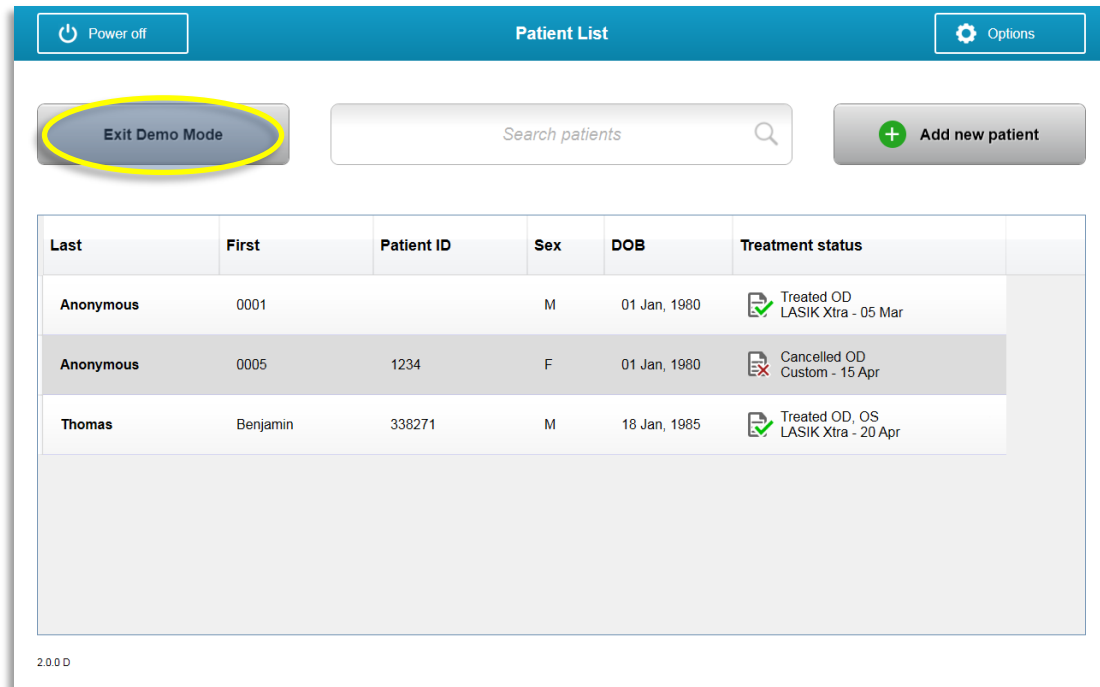
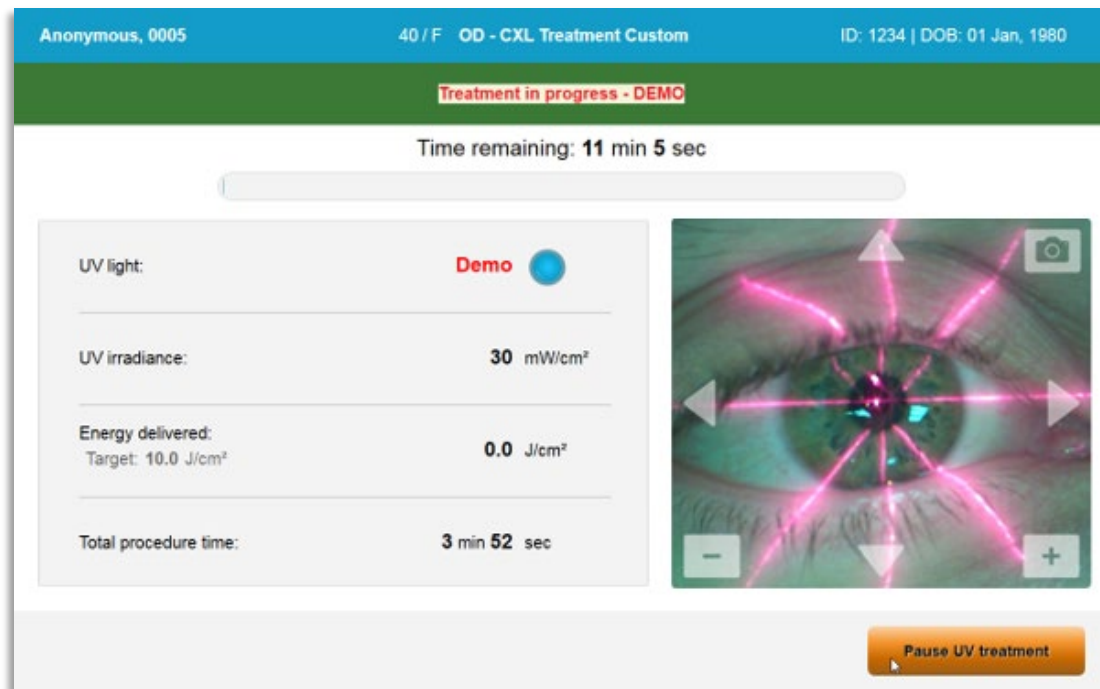

Figure 3-60. Patient List Indicates Demo Mode
Figure 3-61. Demo Mode is Indicated at Top of Screen
- The KXL System screens will indicate that the System is currently in “Demo Mode” as shown in Figure 3-60 and Figure 3-61.